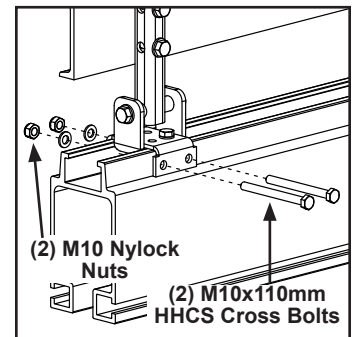

Figure 3-11
- Step 3. Install two (2) M10 x 110 mm HHCS with M10 nylock nuts. **Tighten until bolts are snug + ¼ turn.** Do not over tighten. Over tightening could cause bracket to bend. See Figure 3-11.